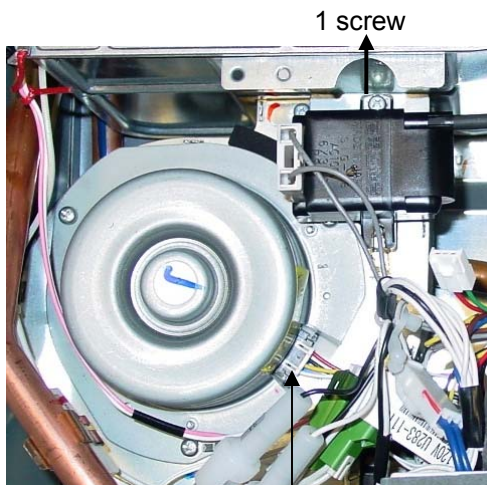

Figure 2
6. Disconnect the wire harness at the fan assembly. (Figure 2)